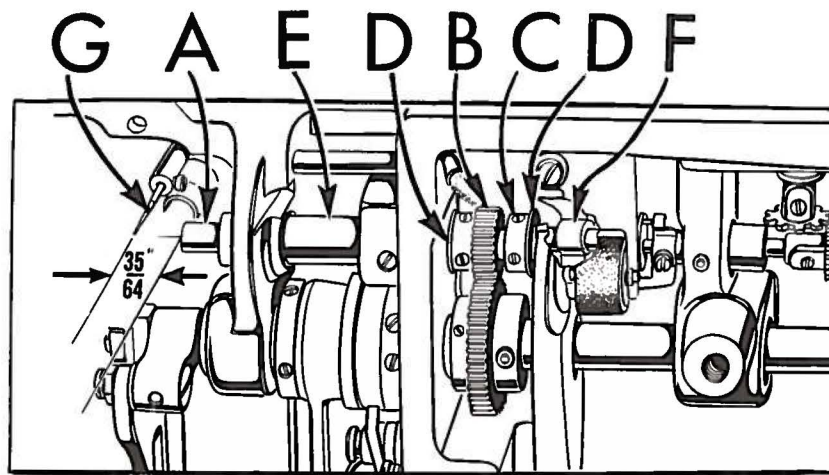

Fig. 22
The hook shaft (A, Fig. 22) is held in position by the pinion (B) and collar (C) thrusting against hard steel washers (D) between the long left hand bushing (E) and the short right hand bushing (F).
Before re-assembly, the end of the hook shaft, its spiral groove and the pump disc should be thoroughly cleaned. Remove any end play found in hook shaft and determine that the 35/64 inch dimension has been maintained (Fig. 22).